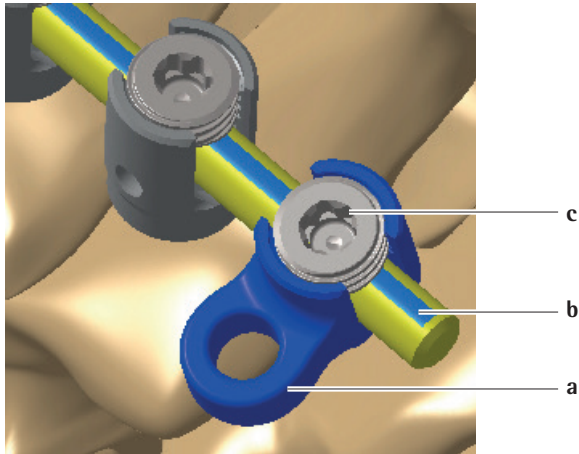

Fig. 52
- ▶ Place the connector **a** on rod **b**, insert and tighten the set screw **c**, see Fig. 52.